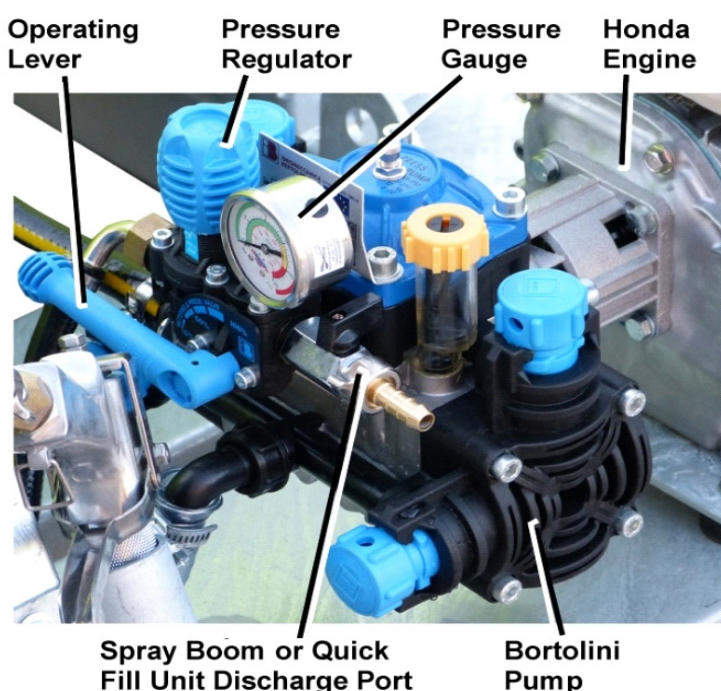

Figure 3 – Pump Arrangement
- At the pump, check that the pressure regulator is set to the minimum position by turning the knob anti-clockwise, refer to Figure 3.